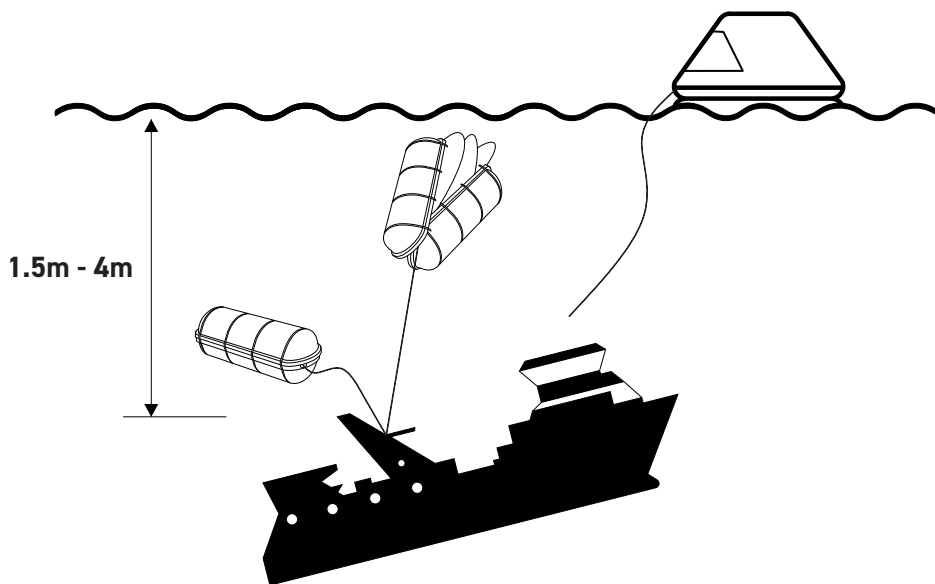

Fig 4 - Float Free Deployment of the Liferaft
3.4.2 The HRU will deploy at a depth between 1.5m and 4m via the action of hydrostatic pressure. This will release the liferaft from its mounting point/strapping and the liferaft will float free from the ship. The painter line remains attached to the ship via the HRU weak link (see Fig 4).
3.4.3 Once the painter line has reached its maximum length, the inherent buoyancy of the liferaft will activate the gas inflation system and the liferaft will inflate. The buoyancy of the liferaft will break the HRU weak link allowing the liferaft to reach the surface ready for boarding (see Fig 4).